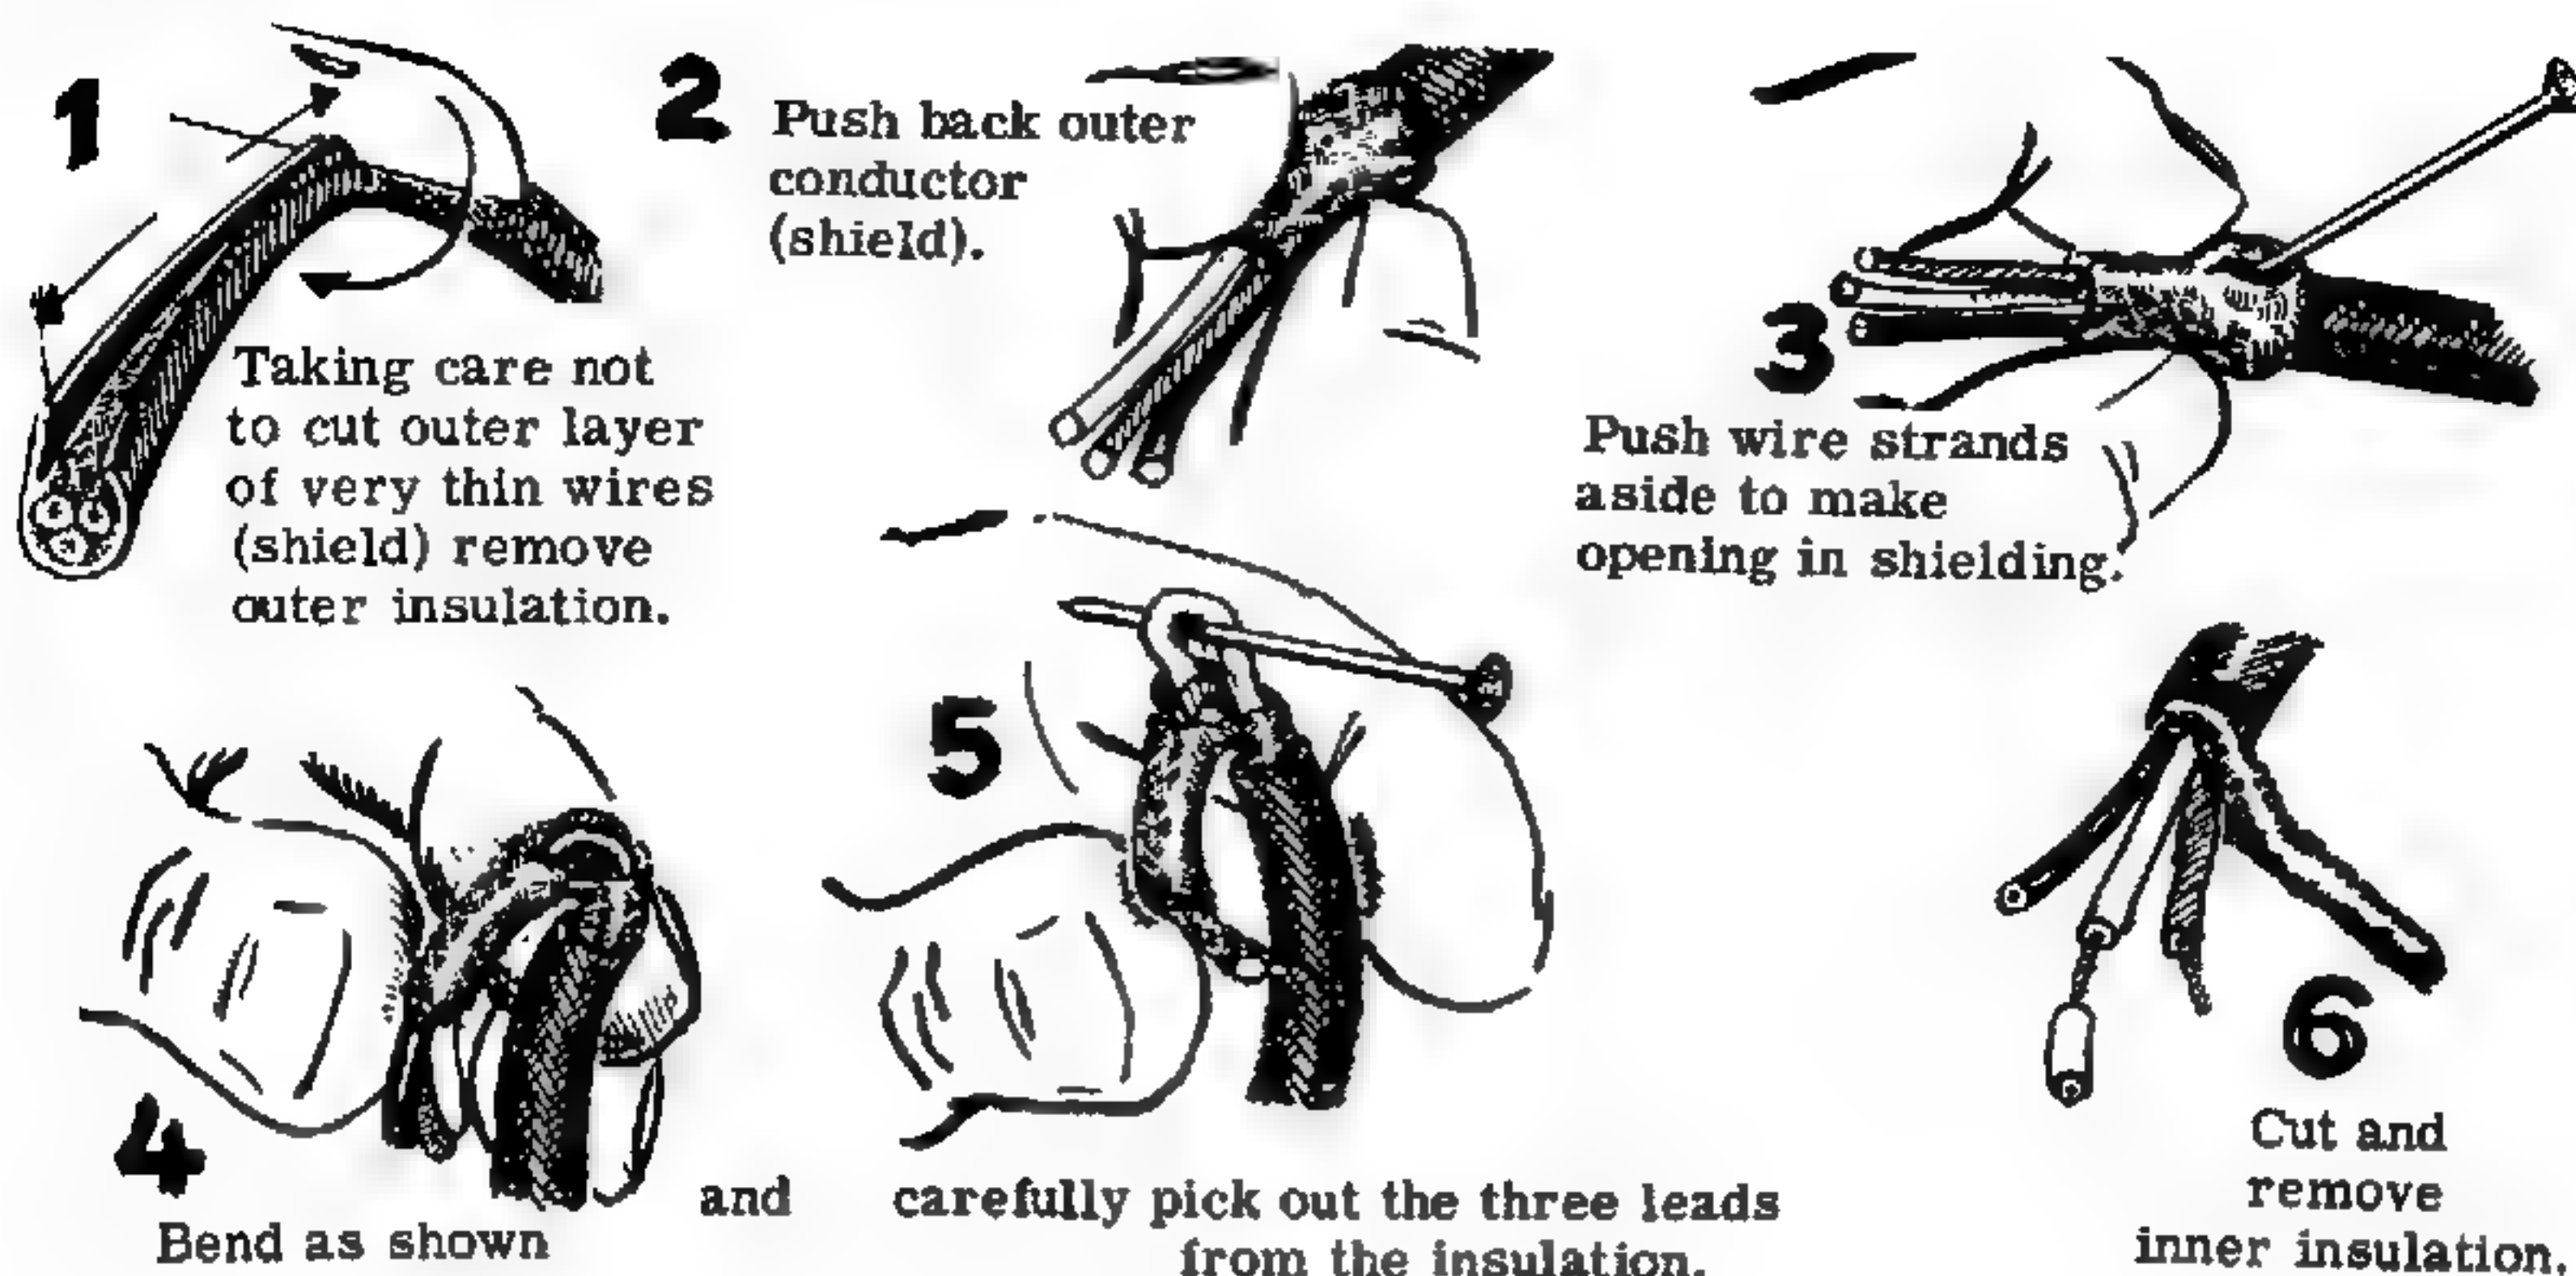

Figure 3
Refer to Figure 3.
- ( ) On both ends of the cable, break the wires out of the side of the shield braid, as shown in Figure 3.